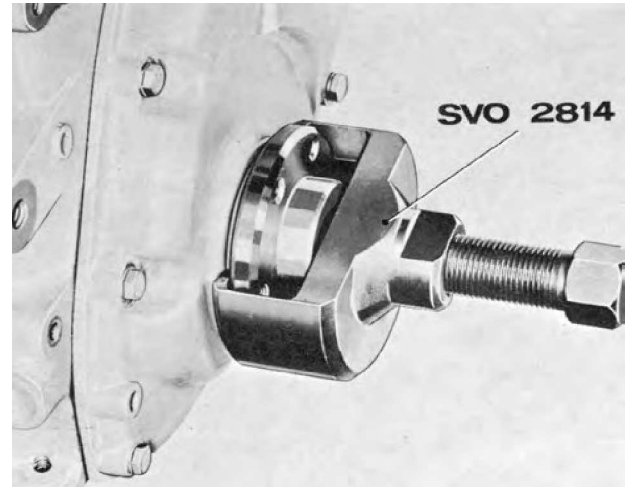

Fig. C10. Removing the polygon hub (6-cyl. engine)
2. Remove the centre bolt and take off the polygon hub with puller SVO 2814, see Fig. C10. (First try to see whether the hub can be removed by hand.)